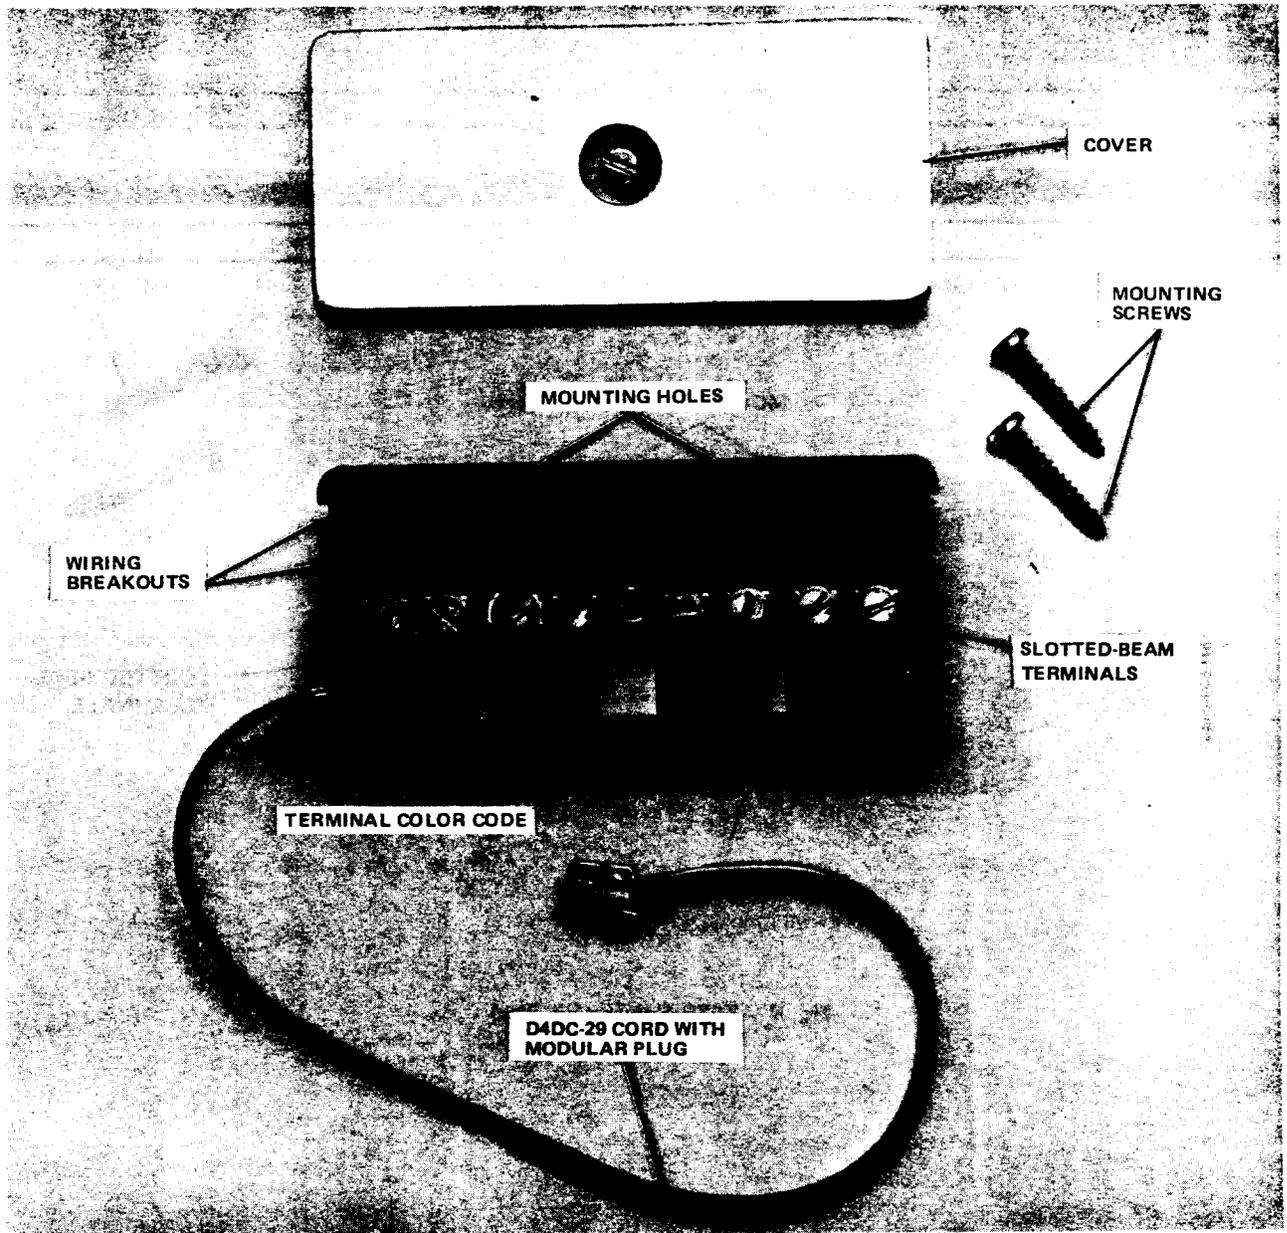

Fig. 8—742A Connecting Block
D. 742A Connecting Block (Fig. 8)